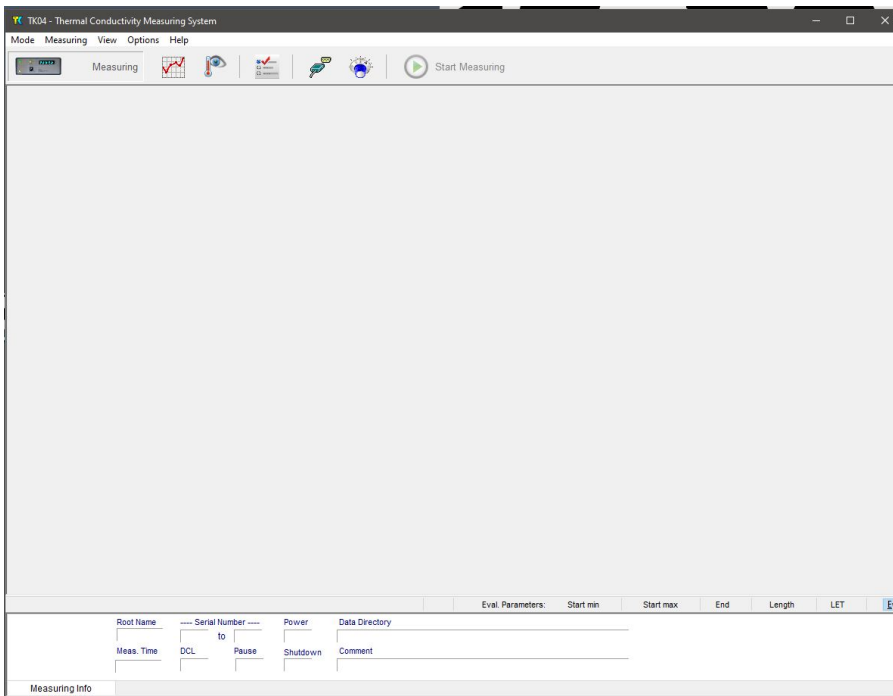

Figure 3. Main **TK04** window.
1. Double-click the **TK04** icon on the desktop (Figure 1). **TK04** window will open (Figure 3).
1. Click **Start Measuring** on main **TK04** window (Figure 3) to start the measurement procedure.